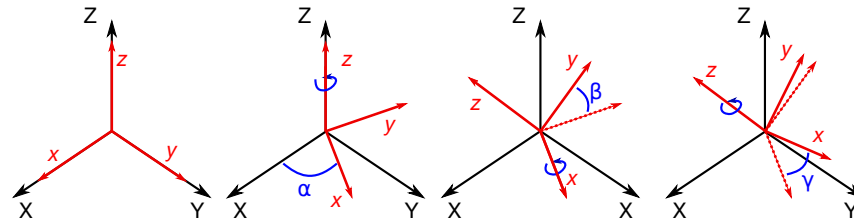

Figure 5-1. A rotation represented by Euler angles (α, β, γ) using $Z(\alpha)X(\beta)Z(\gamma)$ intrinsic rotations.
2. **Local Coordinate Systems.** It is possible to have the ICFD parts or ICFD_PART_VOLs rotate around the global reference frame but also to define and use a local reference frame by defining its point of origin and two of its vectors $\mathbf{v}_1 = (X1, Y1, Z1)$ and $\mathbf{v}_2 = (X2, Y2, Z2)$. The third vector is, then, in the direction of $\mathbf{v}_1 \times \mathbf{v}_2$. See Figure 5-1.